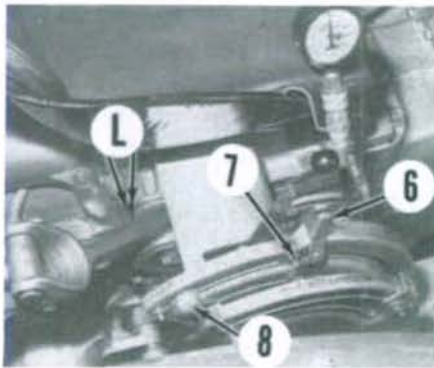

Fig. 178—Refer to text for checking and adjusting transport stop. Pressure control model shown.
If pressure control type, move inner quadrant lever (6—Fig. 178) to "CONSTANT PUMPING" range forward of the transport stop (7). Scribe a line (L) across lift arm hub and lift cover casting. Move inner lever forward in "POSITION" control range to lower the lift links, then move lever back against the transport stop. Measure the distance that scribe lines are separated.